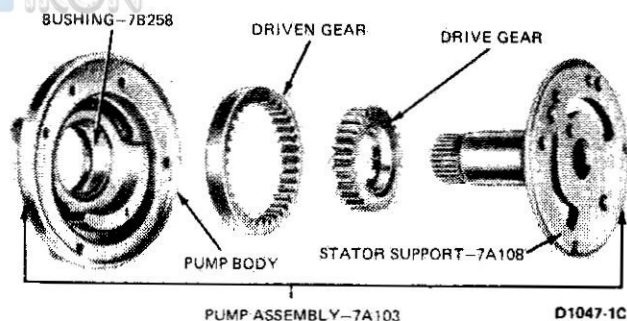

FIG. 33 Front Pump Disassembled
3. Refer to Fig. 33 for a disassembled view of the front pump. Inspect the pump body housing, gear pockets and crescent for scores.